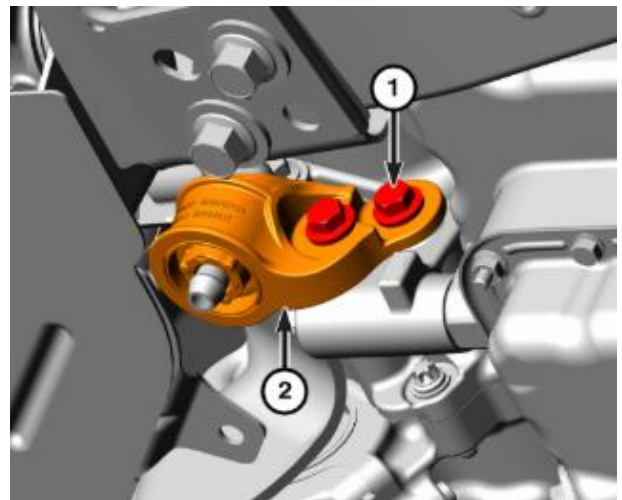

Figure 31 – Exhaust Hanger
8. Remove the exhaust hanger fasteners (1) and remove the exhaust hanger (2) from the vehicle (Figure 31).
12. Place the exhaust hanger, install the fasteners (1) and tighten to 20 N·m (15 ft. lbs.) (Figure 31).